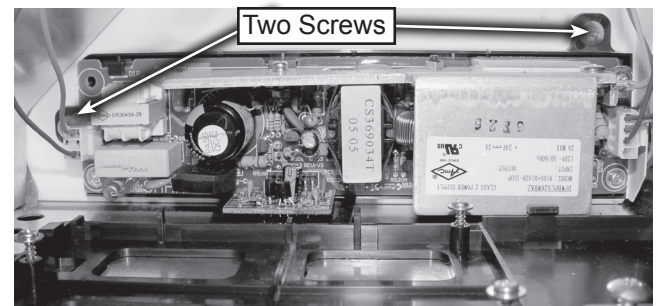

Figure 3
13. Remove two screws that attach the board to the back wall of the microwave, see figure 3.